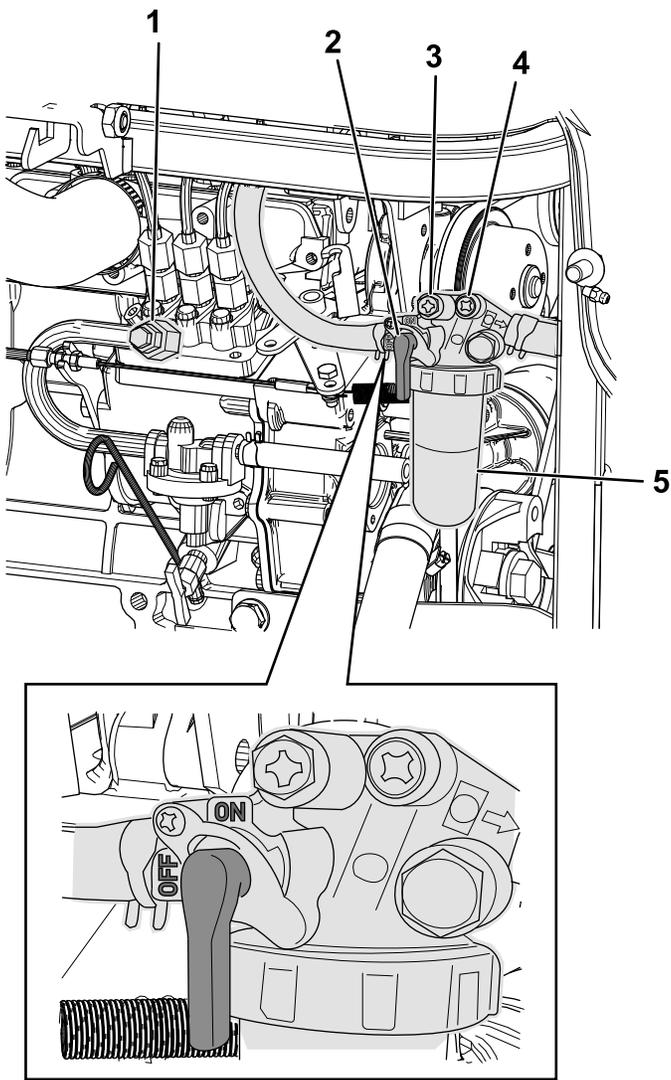

Figure 59
7. Confirm and ensure the fuel filter lever is in the ON position (Figure 59).
8. Open the first air-bleed screw on the fuel-injection pump (Figure 59).
10. After fuel starts to escape, tighten the first air-bleed screw (Figure 59).
11. Open the second air-bleed screw on the fuel-injection pump (Figure 59).
13. After fuel starts to escape, tighten the second air-bleed screw (Figure 59).
7. Rotate the fuel filter lever to the ON position (Figure 59).